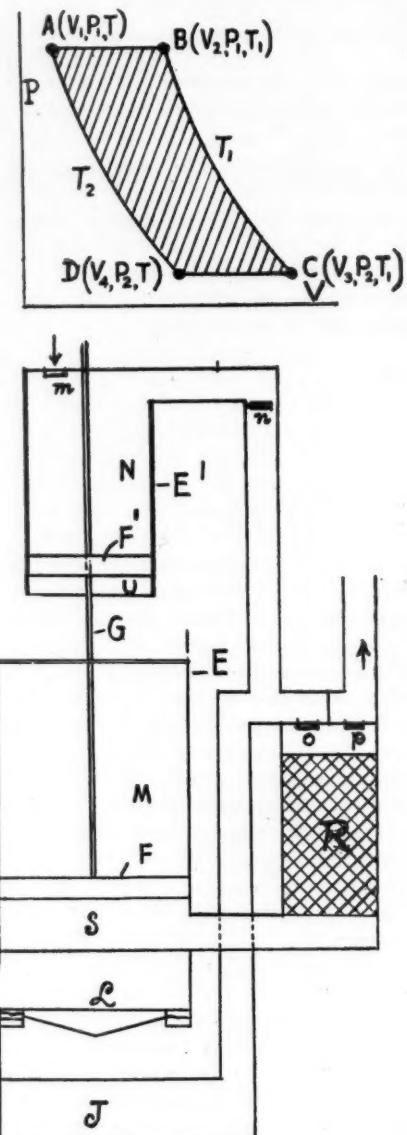

Fig. 22.—Schematic representation of an Ericsson type of hot air engine and Ericsson cycle.
*The Ericsson Type of Hot Air Engines.* In the Ericsson type of engines the air may be heated—as mentioned above—or by conduction or directly in a furnace. In the latter case the air is bound to be contaminated with the gases of combustion, and its corroding action at the temperatures used is very harmful. Fig. 22 represents schematically an Ericsson type of engine in which the air is heated by conduction. It consists of a compressing cylinder  $E'$  (the air used is first somewhat compressed) and a working cylinder  $E$ , provided with the pistons  $F'$  and  $F$  containing a heat insulating material and having the same piston rod  $G$  which is provided with mechanisms for the transmission of the power generated, a compressed air receiver  $J$ , a furnace  $L$  and a regenerator  $R$  (a cylinder containing wire gauze or pieces of sheet iron). Valves  $m$ ,  $n$ ,  $o$ ,  $p$ , permit the interconnection between the vessels as shown. Cylinder  $E'$  is open to